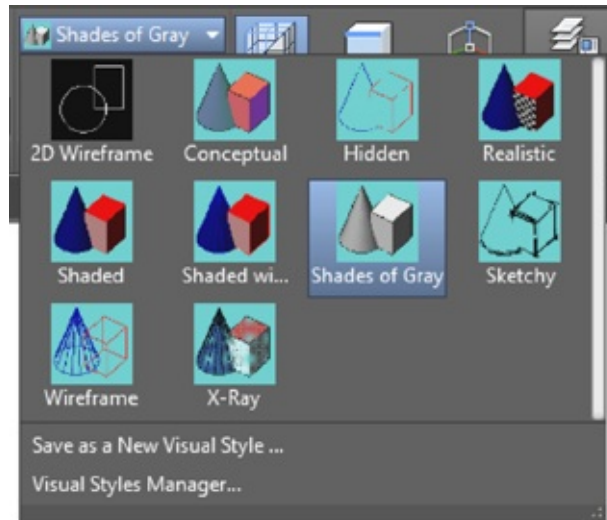

FIGURE 20.39 The Visual Styles drop-down
1. Click the Visual Styles drop-down list in the Home tab's View panel. You can also find the list in the View tab's Visual Styles panel, which will display the Visual Styles Manager palette. A set of graphic images appears that gives you an idea of what each visual style shows you (see Figure 20.39). You can also access the visual styles from the Visual Styles drop-down list located at the upper-left side of the drawing screen, but you will not get the graphical images.